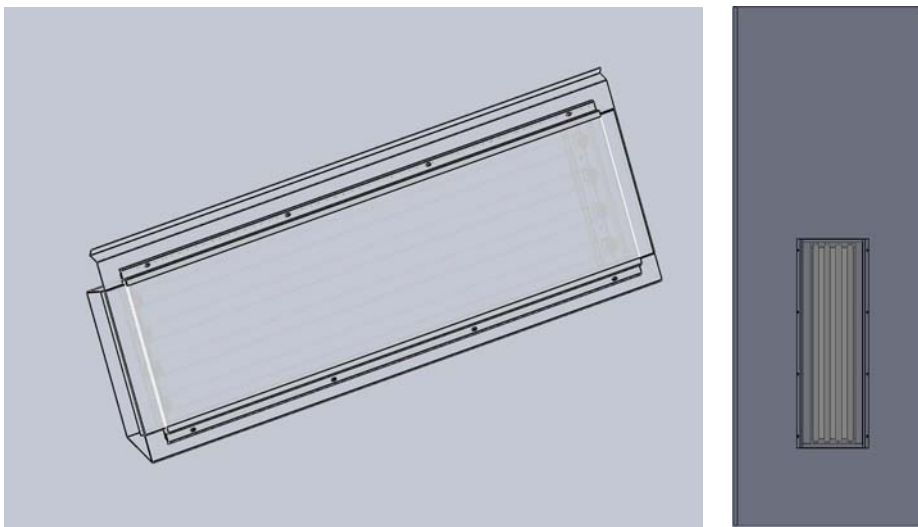

Fig. 2.4
- The internal illumination is warranted by the overhead lights ( shown in Fig.2.4 ) inserted into the top of the side panels, positioned at an angle of 45° to warranty a sufficient and uniform illumination.